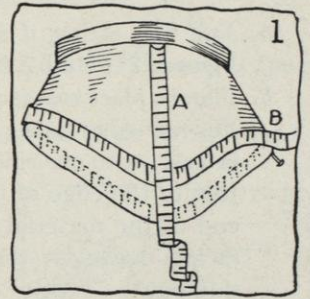

FIG. 1.
- (1) Measure from headsize to edgewire, as shown at point A in Figure 1.
- (2) If you wish to put the *facing in raw edge*, add 1 inch to this measurement, because, when you stretch the bias of material around the brim, it will be narrower. If you wish a *finished edge* skip over to Section 10, page 131.
- (3) Write down this measurement and label it *for raw edge facing*. If you want a finished edge facing see Section 10 (page 131).
- (1) Pin tape measure to the edgewire and draw it smooth on edge of brim until you reach the pinned end (see point B in Figure 1).
- (2) Subtract 1 inch from the measurement, for a bias will stretch.
- (3) Write down that measurement, and label it *length of bias*.